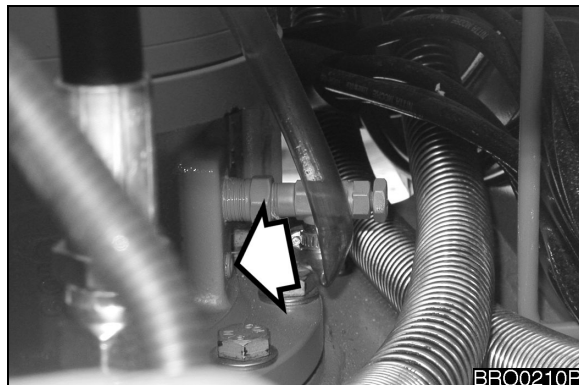

Figure 66
2. Remove air vent plug (Figure 66) from swing reduction device.